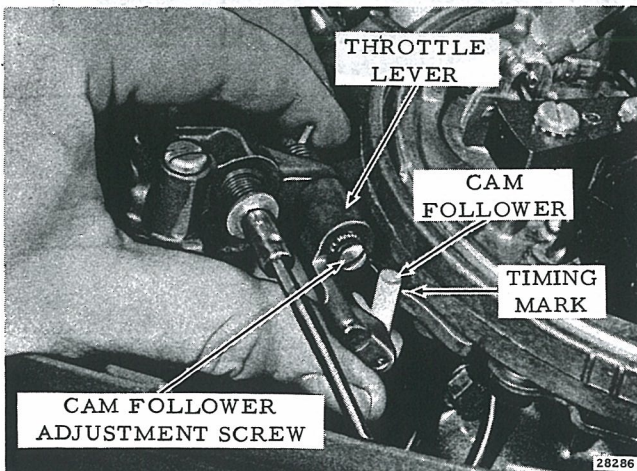

Figure 3-18. Throttle Cam Adjustment
- b. Move cam follower so that it just contacts throttle control cam. Rotate magneto (or throttle control on steering handle) so cam follower lines up with mark on throttle control cam. See Figure 3-18.